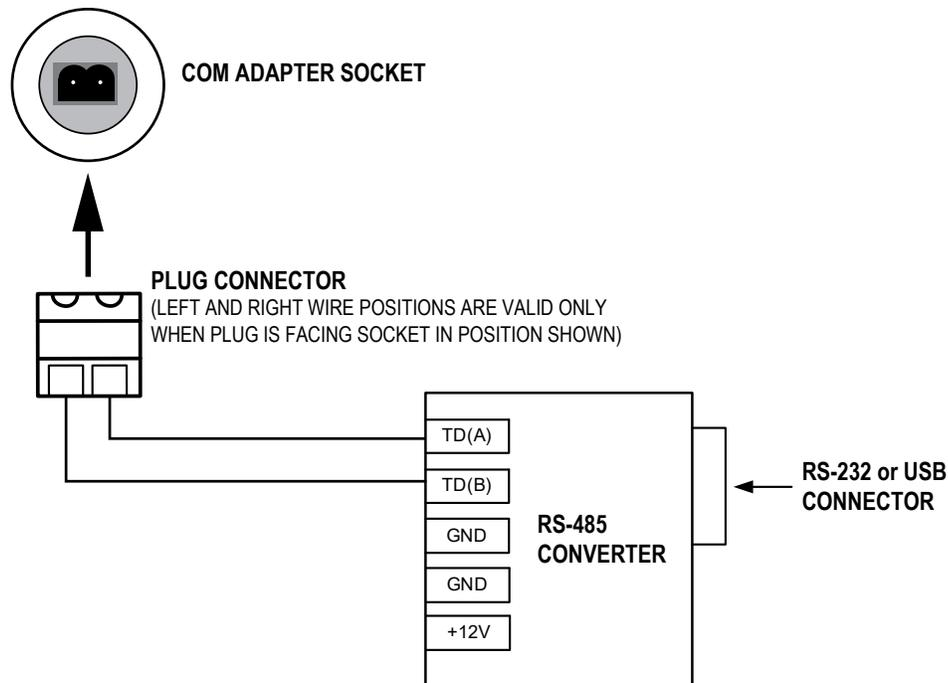

Figure A.4—Plug connector installation with user-supplied RS-485 converter (available from Sensia)
A plug connector that mates with the RS-485 adapter socket is shipped with the device (uninstalled). This plug connector should be wired to an RS-485 converter cable as shown in Figure A.4, and stored with the cable when the COM adapter is not in use.
2. Wire the plug connector to an RS-485 converter cable, if it is not already attached (Figure A.4).
3. Connect the plug connector to an RS-485 converter cable (Figure A.4, page A-3), if applicable.